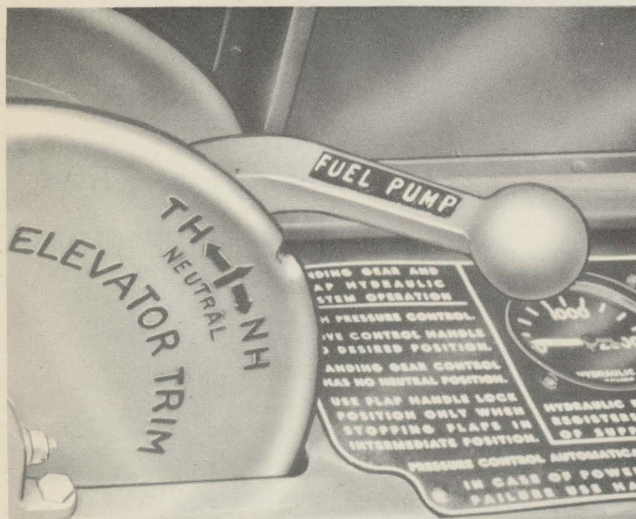

FIG. 7—HAND FUEL PUMP HANDLE
6. HAND FUEL PUMP (See figure 7.)